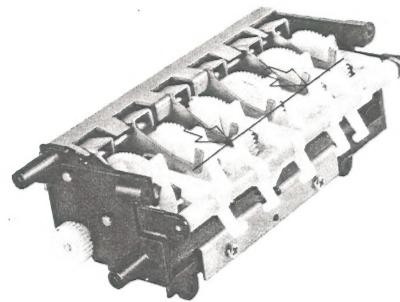

Fig. 19
4) Confirm that the assembly will not move even if the lever (gear stopper) is pressed. (See figure 19)